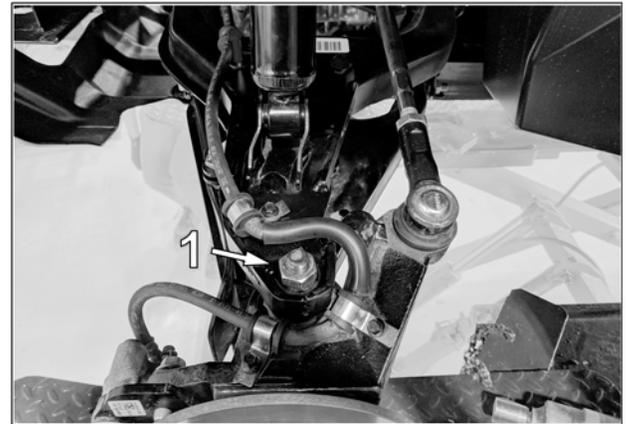

Fig. 16
7. Re-install Ball Joint nut (**1**) without tightening it at this point. See Fig. 16 or Fig. 17.